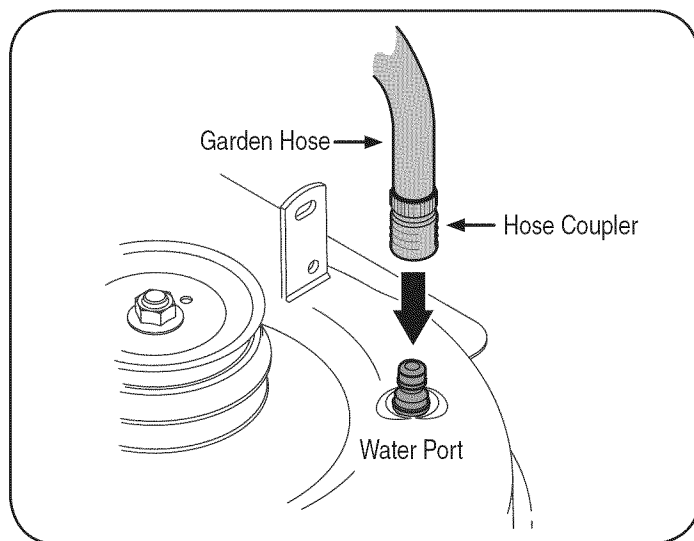

Figure 18
1. Thread the hose coupler (packaged in a bag with the Operator's Manual) onto the end of your garden hose, Figure 18.
2. Attach the hose and coupler to the water port on the deck surface, Figure 18.